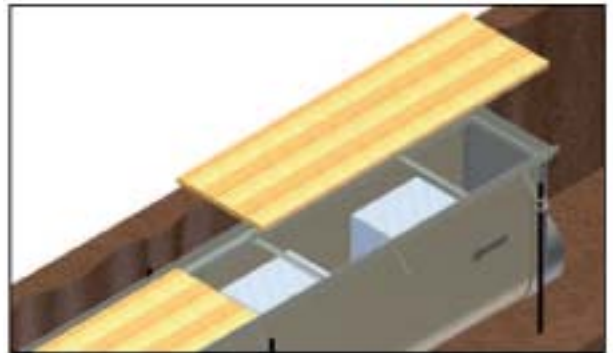

Figure 8.3
- Plywood slats should be cut and placed in to the frames to avoid concrete spilling in during the pour. See Fig. 8.3